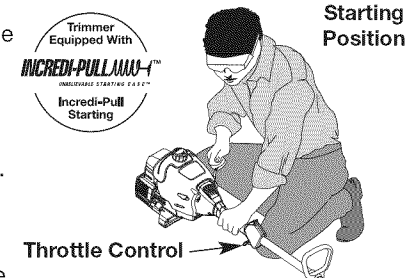

Fig. 4
WARNING: Avoid accidental starting. Make sure you are in the starting position when pulling the starter rope (Fig. 4). To avoid serious injury, the operator and unit must be in a stable position while starting.
4. Crouch in the starting position (Fig. 4). Do not squeeze the throttle, pull the starter rope with a controlled motion until the unit starts. Wait and allow the unit to idle for 60 seconds.